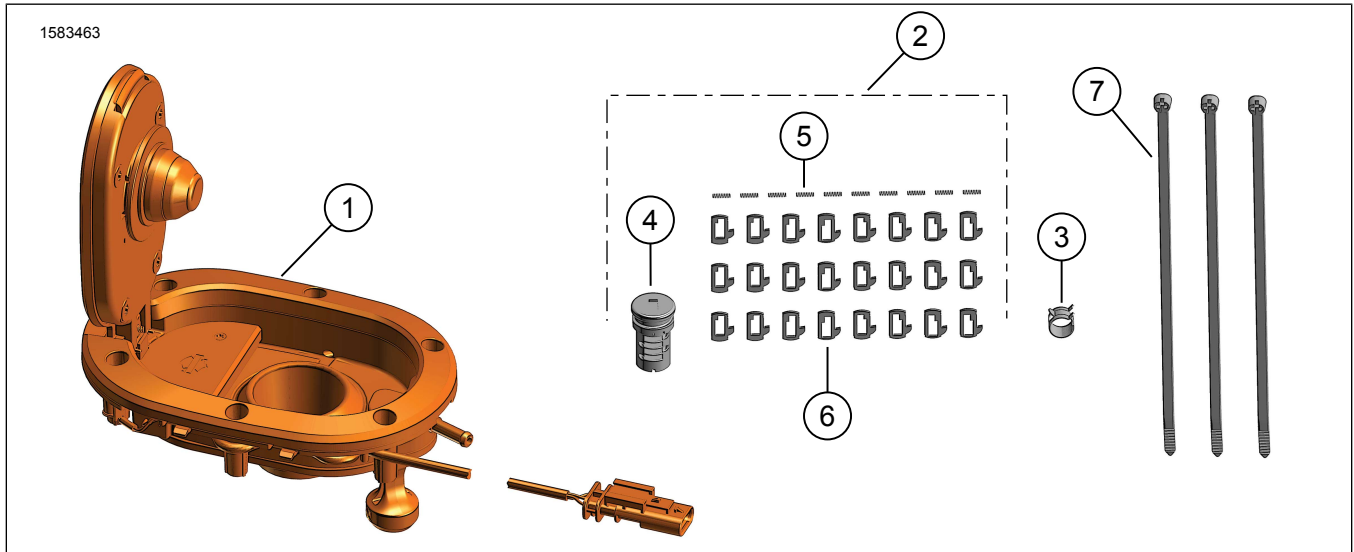
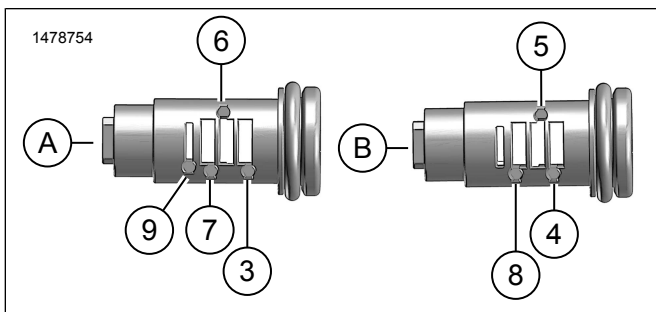

Figure 1. Kit Contents: Oval Style Locking Fuel Cap
Figure 5. Spring and Tumbler Install Locations
4. See Figure 5. Install tumbler springs (5), see Figure 1, into holes at stations 8,5,4 and 1 on side (A) of cylinder sub-assembly.
5. See Figure 5. Install tumblers (6), see Figure 1, #11-14 in stations 8,5,4 and 1 per tumble numbers determined in Table 3.
6. See Figure 5. Install tumbler springs (5), see Figure 1, into holes at stations 2,3,6 and 7 on side (B) of cylinder sub-assembly.
7. See Figure 5. Install tumblers (6), see Figure 1, #21-24 in stations 2,3,6 and 7 per tumble numbers determined in Table 3.
9. See Figure 1. Install hose clamp (3) on vapor hose where OE clamp was removed earlier.